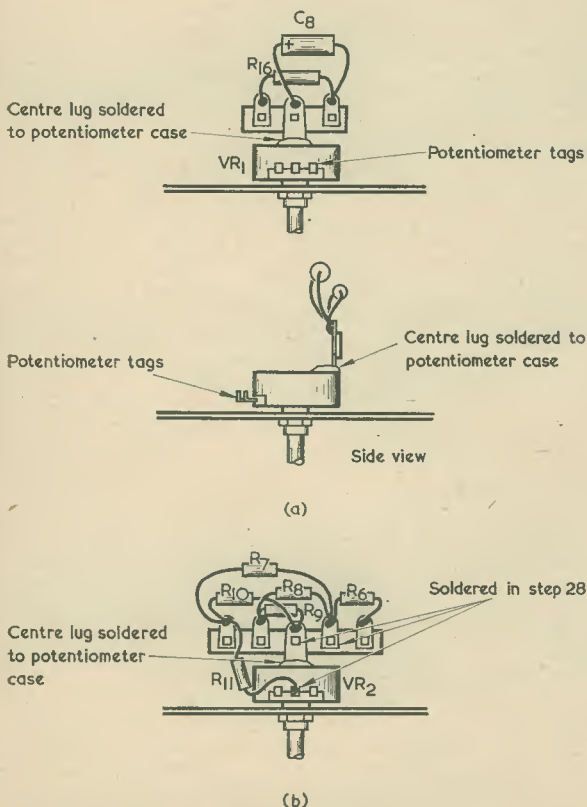

Fig. 7. Wiring and mounting details for (a) the 3-way tagstrip and (b) the 5-way tagstrip
15. Solder R16 and C8 to the 3-way tagstrip, then solder the centre lug of the tagstrip to the top rear of VR1 metal case. The resultant assembly appears as shown in Fig. 7(a).
18. Solder the centre lug of the 5-way tagstrip to the top rear of VR2 metal case, as in Fig. 7(b). It takes up a similar position on the potentiometer case as does the 3-way tagstrip illustrated in Fig. 7(a). The components shown in Fig 7(b) are *not* fitted yet.
28. Fit R6, R7, R8, R9, R10 and R11 to the 5-way tagstrip and VR2, as shown in Fig. 7(b). Solder only at the three tags indicated in this diagram.